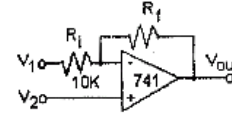

Fig.6a
**VI. Superposition:** a. We have till now considered circuits that accept signals at only one of the two input terminals of the op amp (the inverting or the noninverting inputs). In this experiment we shall work with an op-amp circuit (Fig.6a) that provides simultaneous inputs at the inverting and noninverting terminals. The relation between  $V_{out}$  and the inputs can be obtained using Horowitz and Hill's Golden Rules. However, use can also be made of the superposition theorem: which in this case implies that if  $V_{out1}$  ( $V_{out2}$ ) is the response due to input  $V_1$  ( $V_2$ ) acting alone, i.e. with the other input  $V_2$  ( $V_1$ ) being zeroed (grounded in this case). Then response due to both inputs  $V_1$  and  $V_2$  acting simultaneously is  $V_{out} = V_{out1} + V_{out2}$ .